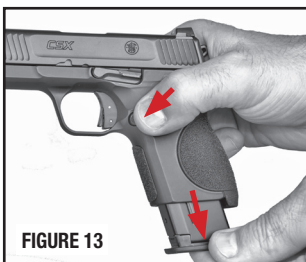

FIGURE 13
- Depress the magazine release and remove the magazine from the pistol (FIGURE 13).